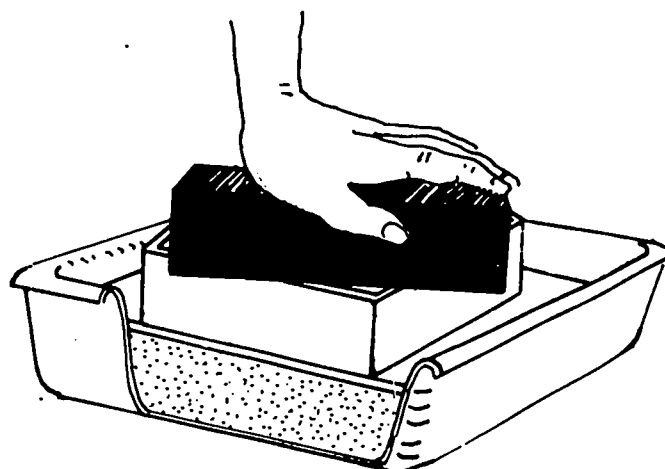

Fig. 37-3. This Represents a Foundation and Superstructure with a Floating Footing
4. Put the brick on the foundation and press down. See Fig. 37-3.